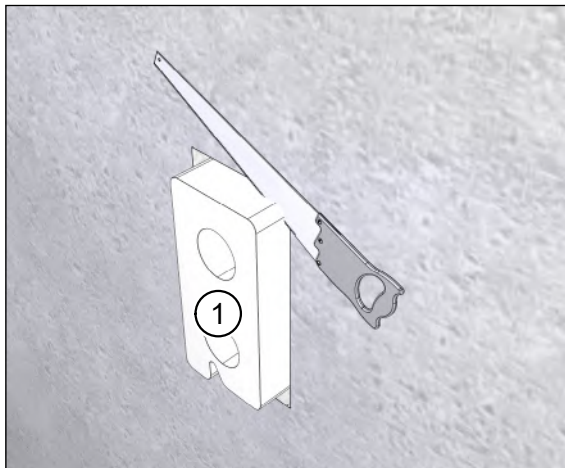
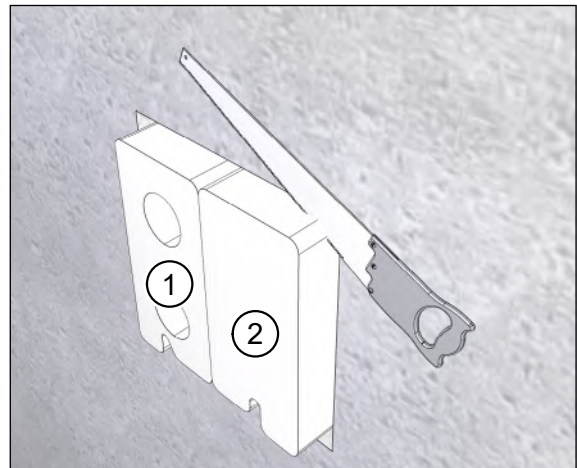

Fig. 28: Aligning the wall box **without** filler piece
Fig. 29: Aligning the wall box **with** filler piece
- ▶ Use a Styrofoam saw to cut off the excess wall box (item 1 in Fig. 28 and Fig. 29) and filler piece, if necessary (item 2 in Fig. 29), so that they are flush with the solid wall or any insulation.